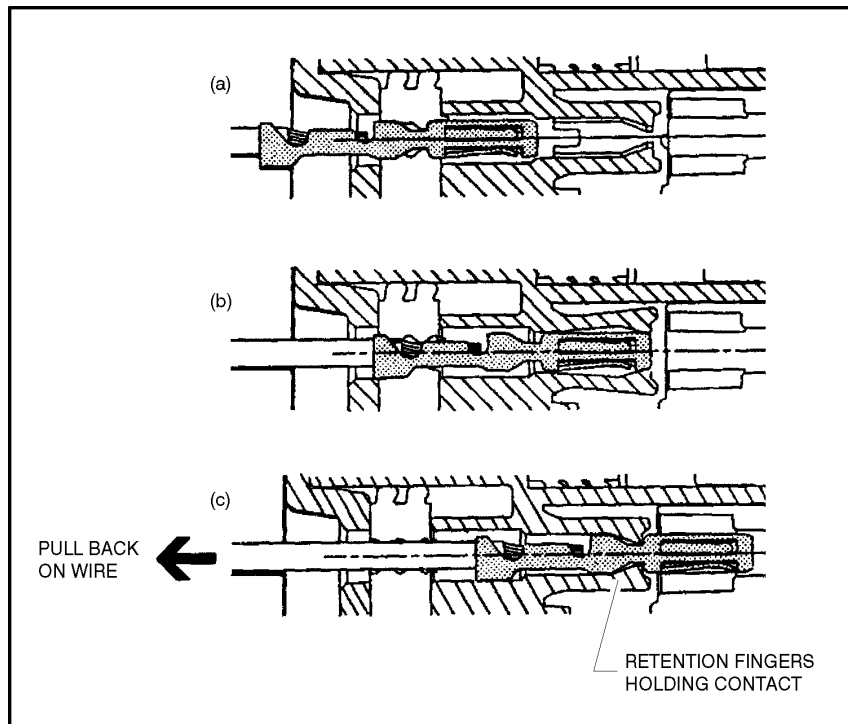

Figure 7-13. Connector Assembly Figure 2
1. To insert a contact, push it straight into the appropriate circuit cavity as far as it will go (See Figure 7-13.).
2. Pull back on the contact wire with a force of 1 or 2 lbs. to be sure the retention fingers are holding the contact (See Figure 7-13.).